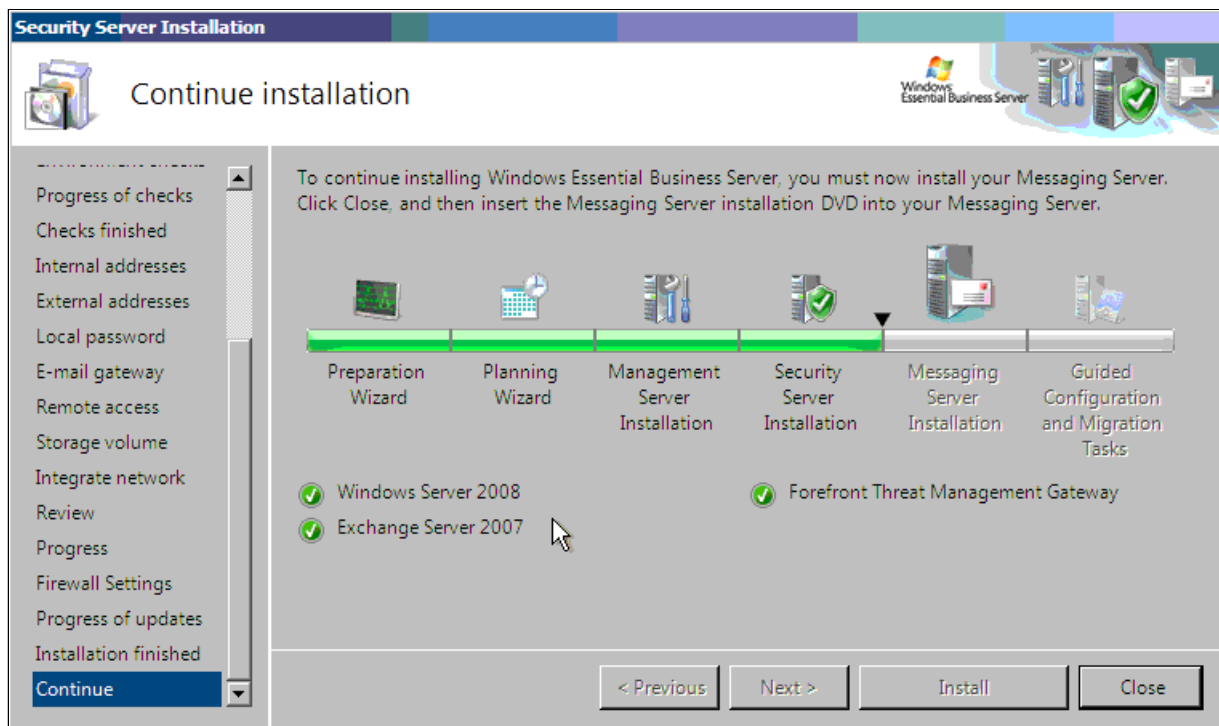

Figure 4-37 Continue installation page
27. The “Continue installation” panel (Figure 4-37) directs you to continue installation on the Messaging Server, described in 4.5, “Installing the Messaging Server” on page 123. Click **Close**.